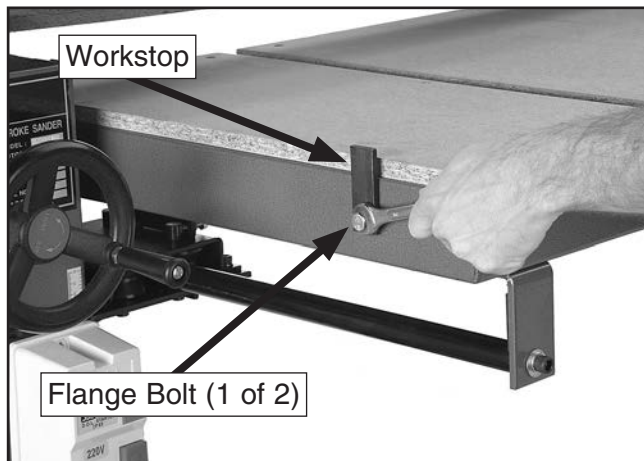

Figure 33. Table workstop.
1. Loosen the flange bolts that hold the workstops to the table (**Figure 33**).